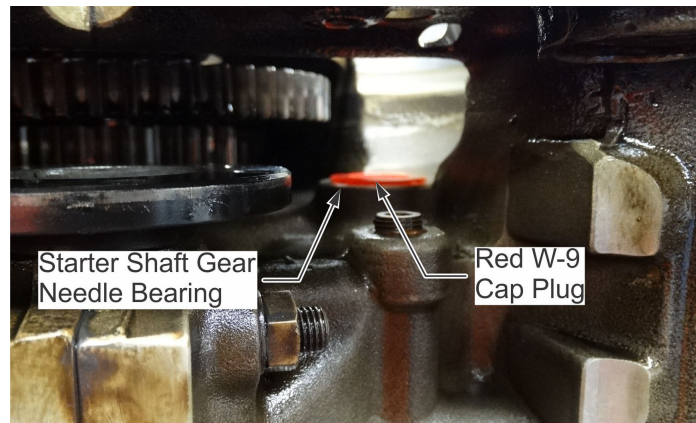

Figure 8. Cap the Starter Shaft Gear Needle Bearing
- c. Place a W-9 Cap Plug (CMI P/N 626972-9) into the starter shaft gear needle bearing (located in the crankcase through the Starter Adapter Mount pad, see Figure 8) to protect the needle bearing from debris or metal shavings. Coat the mating surface of the cap plug with Super Molyshield grease to help capture grinding debris.